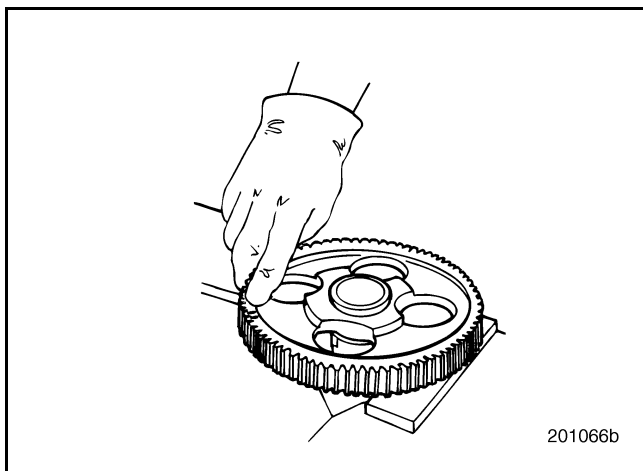

Figure 163 — Camshaft Gear Installation, Heat Method
6. Remove the gear from the oven and position it on the camshaft with the keyway aligned with the key and the timing marks facing up (Figure 163).